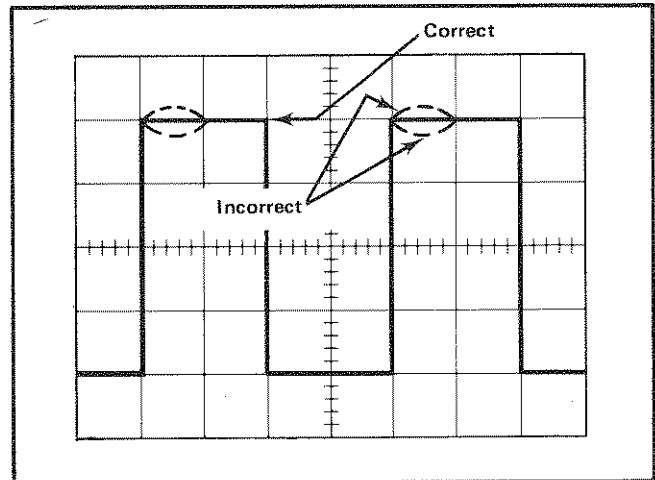

Fig. 5-4. Illustration showing incorrect and correct cross-over phase adjustment.
b. CHECK—Test oscilloscope for a flat-topped waveform, see Fig. 5-4.